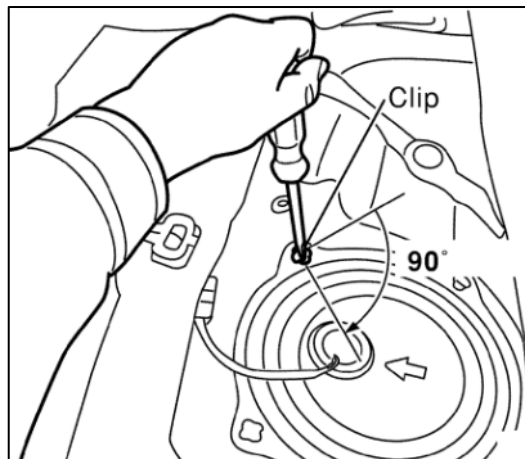

Figure 2
5. Remove the Carpet over the Fuel Pump then remove the cover by turning the clips clockwise by 90°. *Figure 2*.